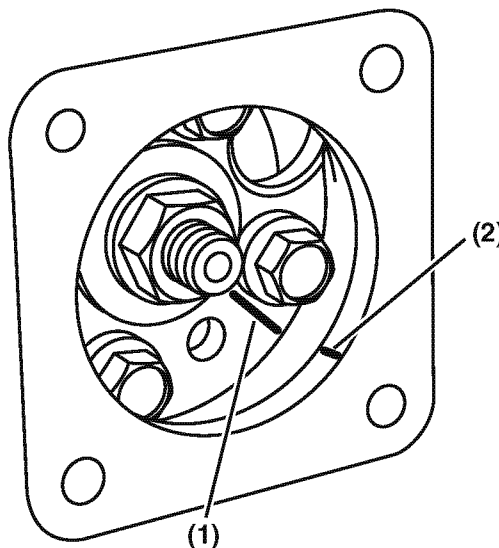

Figure 7-14
- On TNV82-88 model engines, the idler gear is not visible. Make a reference mark on the fuel injection pump drive gear (Figure 7-14, (1)) and a matching mark on the bore of the gear case opening (Figure 7-14, (2)).